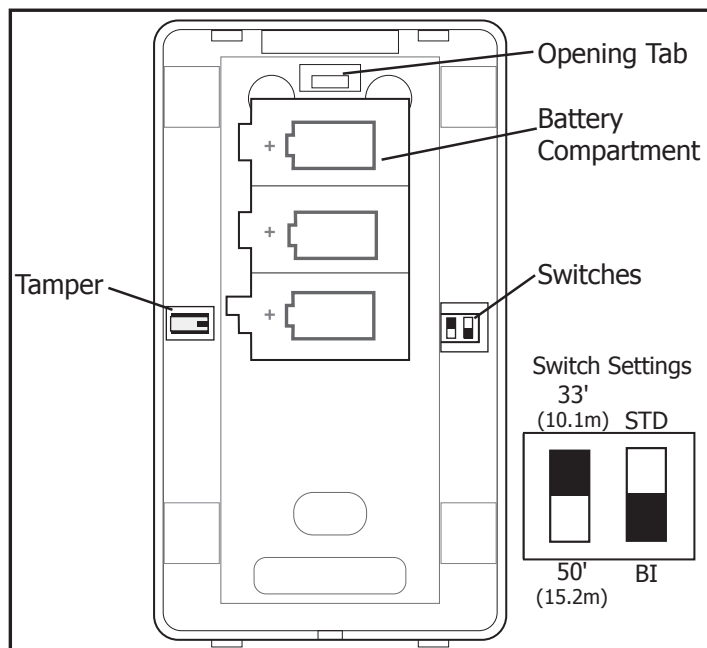

Figure 6: 1125 PIR Switches
Use the switches located on the unit back to set sensitivity and range, as shown in Figure 6. Use the following to determine the appropriate switch settings for an application.
3. Place the 3.0V lithium batteries in the holder as shown in Figure 6 and press each one into place.